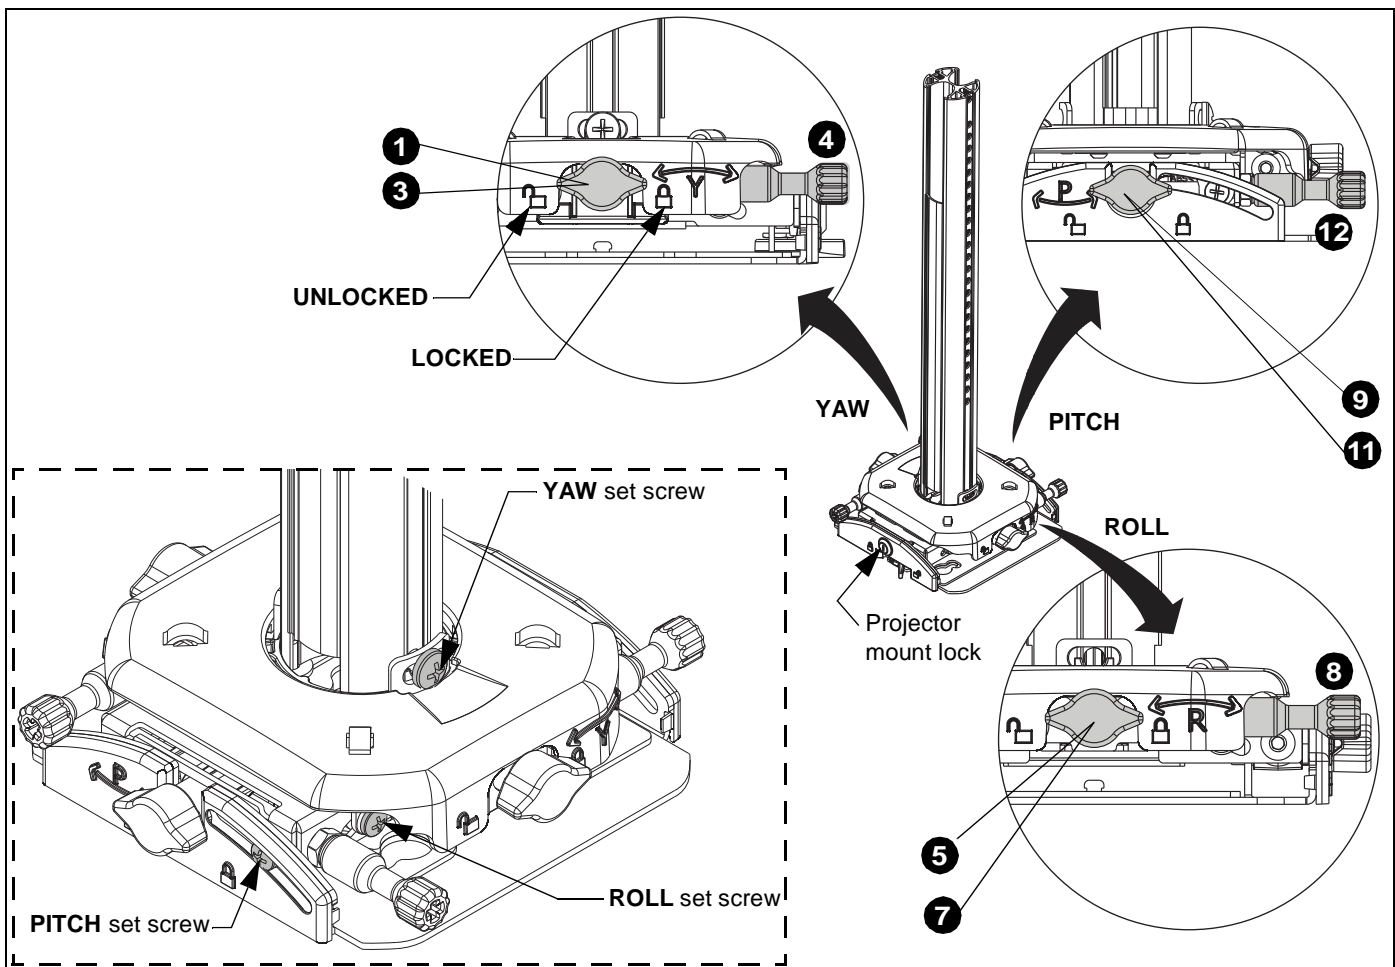

Figure 23
NOTE: Be sure to use the correct adjustment feature (**Yaw**, **Roll** or **Pitch**) when adjusting the projector mount. (See Figure 23)
4. Turn YAW micro-adjustment knob right or left until image is properly aligned on target. (See Figure 23)
8. Turn ROLL micro-adjustment knob right or left until image is properly aligned on target. (See Figure 23)
12. Turn PITCH micro-adjustment knob right or left until image is properly aligned on target. (See Figure 23)
IMPORTANT ! : After adjustment, set screws may be tightened to secure Yaw, Roll and Pitch adjustments. (See Figure 23)